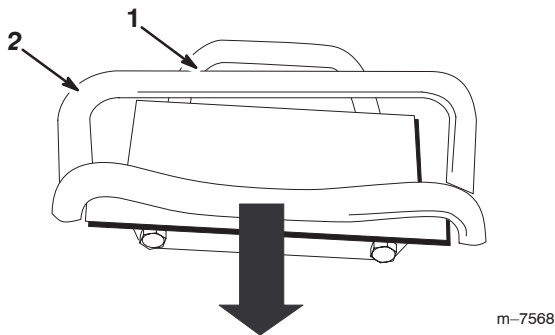

Figure 36
3. Pull straight back on the traction control so the front of the control contacts the reference bar (Fig. 36).